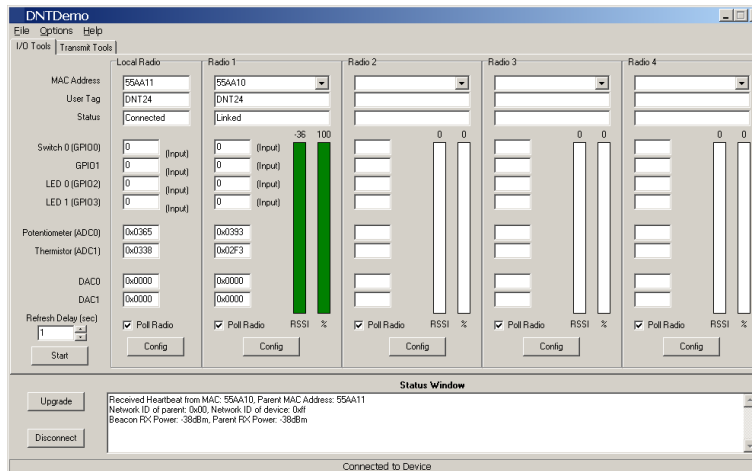

Figure 7
12. The Demo will display data on the Remote in the Radio 1 column, including bar graphs of RSSI (signal strength) and percent packet success rate, as shown in Figure 7. Adjusting the pot on the Remote can be observed in the Potentiometer (ADC0) data. You can change the Refresh setting from the drop down menu at the bottom left. Adjusting the pot on the base can be observed in the Potentiometer (ADC0) data in the Local Radio column.